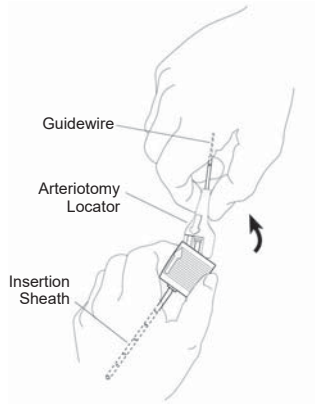

Fig. 4
a) remove the arteriotomy locator and guidewire from the insertion sheath by flexing the arteriotomy locator upward at the sheath hub (Figure 4).